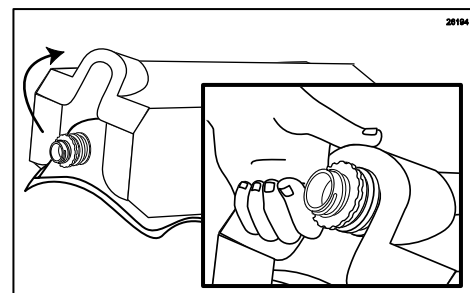

Figure 157
6. Place the tray up-side-down over the bag and pull the fitment into the tray opening as shown. The tray opening should slide between the grooves of the bag fitment. (See Figure 157.)